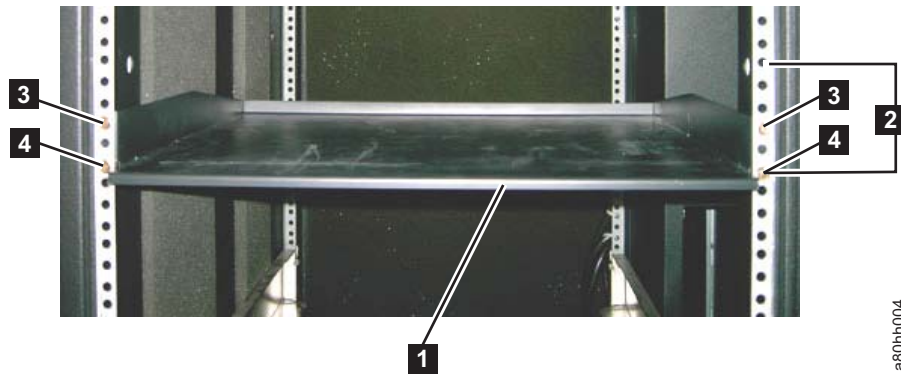

Figure D-1. Front view of shelf attached to rack rails
1. Decide at what level you want to install the shelf. The 3580 requires 3 units (EIAs) of rack space (see **2** in Figure D-1).
**Note:** All vertical rack measurements are given in rack units (U). One U is equal to 4.45 cm (1.75 in.). The U levels are marked on labels on one front mounting rail and one rear mounting rail.